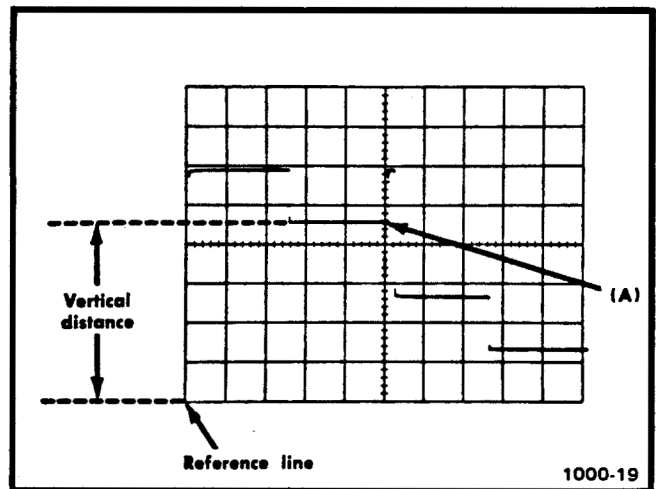

Fig. 2-4. Measuring instantaneous dc voltage with respect to a reference voltage.
4. Measure the distance in divisions between the reference line and the point on the waveform at which the dc level is to be measured. For example, in Fig. 2-4 the measurement is made between the reference line and point A.